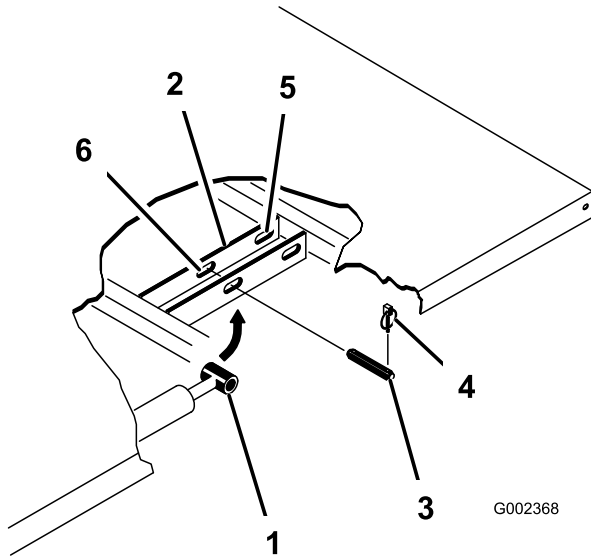

Figure 33
3. Remove the lynch pins from the outer ends of the cylinder rod clevis pins (Figure 33).
4. Remove the clevis pins securing the cylinder rod ends to the bed-mounting plates by pushing the pins towards the inside (Figure 33).
5. Remove the lynch pins and clevis pins securing the pivot brackets to the frame channels (Figure 33).